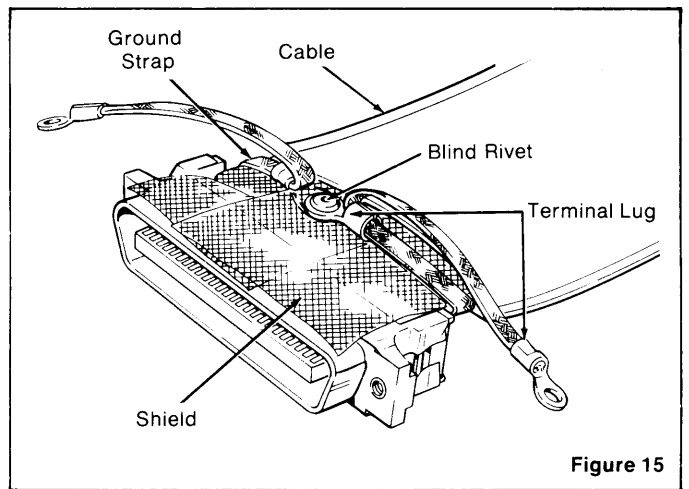

Figure 15
- Attach an $\frac{1}{64}$ " (4,3 mm) braided ground strap to the shield by blind riveting the shield between a piece of folded-over copper foil tape, 3M #D-01-103, and the two terminal lugs fastened to the braid. (Figure 15)